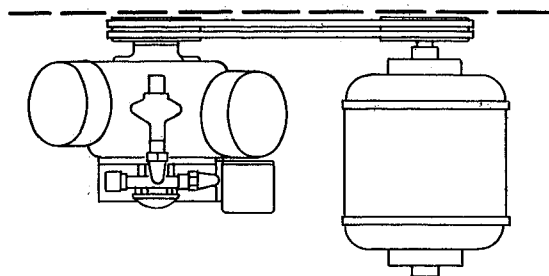

FIG. 15 — CORRECT BELT ALIGNMENT
(1) Clean the motor and compressor shafts and the bore of the flywheel and motor pulleys using emery cloth as required.
(2) Install the motor pulley and compressor flywheel. See that keys fit tightly along the sides and that the pulley and flywheel are properly secured to the shafts.
(3) Install belts by sliding the motor on its rails until the belts slip easily into grooves.
(4) Move the motor back into place by means of the adjusting bolts until the belt slack has been taken up.
(5) Line up the flywheel and motor pulley (Fig. 15, 16 & 17) using a straight edge or string so that the shafts are parallel and the belt grooves in the same straight line. Alignment may also be checked by placing a length of round rod in the belt grooves.
(6) A belt guard should be erected to cover the flywheel, motor pulley, and belts. The sides and top of this guard may be made of solid sheet steel for rigidity and protection. The
end or front of the guard may be made from expanded metal mesh or perforated sheet metal to allow the passage of air necessary for cooling the motor. Allow at least 2" clearance in all directions between the belt guard and the flywheel, bolts and pulley. Brace the belt guard firmly so that it cannot be pushed into contact with the moving parts. Parallel and angular misalignment illustrated in Figs. 15, 16, 17 will result in excessive belt wear and added thrust on motor bearings.